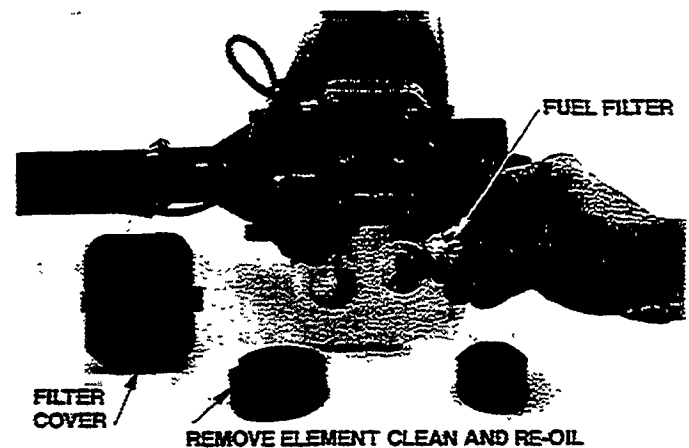

Figure 10
- Clean and service air filter (after cleaning put small amount of engine oil on sponge and squeeze out excess) (Figure 10).
- Check fuel filter in tank and clean if needed (Figure 10).